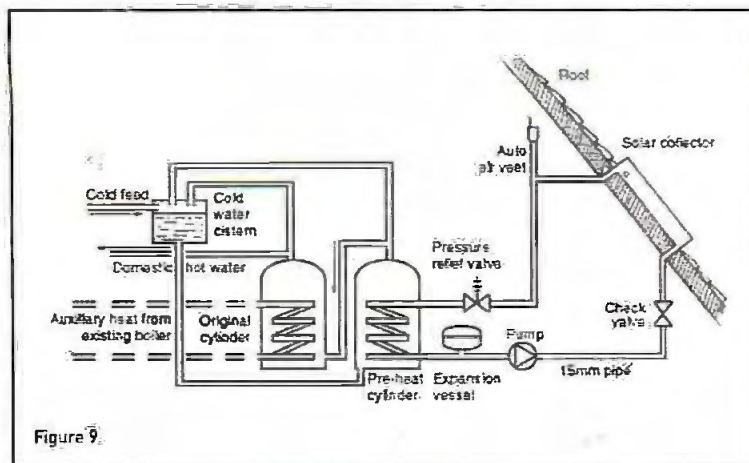

Figure 9.
- pressurised systems do not require a separate header tank (feed and expansion tank) that has to go above the rest of the system, thus allowing the panels to be positioned at the top of the roof. The expansion vessel required for expansion of hot water can be placed almost anywhere in the solar loop, which makes installation easier and faster, plus it does not usually require a separate support platform to be built (see Fig. 9).